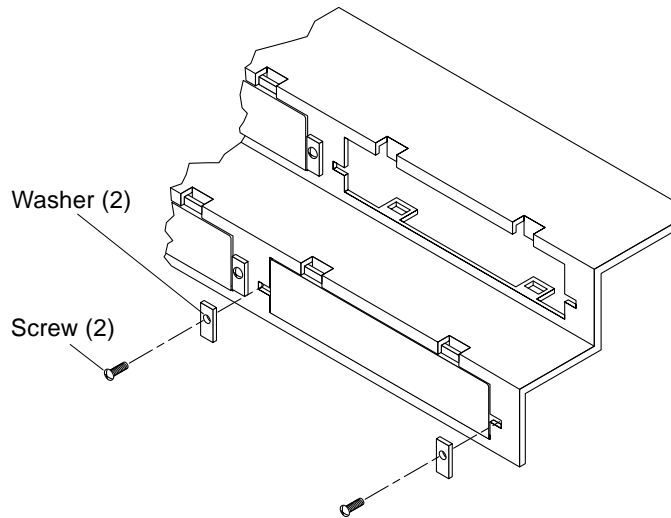

FIGURE 11-6 MBus Module Back Panel Screws and Washers
4. **Remove the four screws and rectangular washers from the MBus module and the back panel (FIGURE 11-6).**